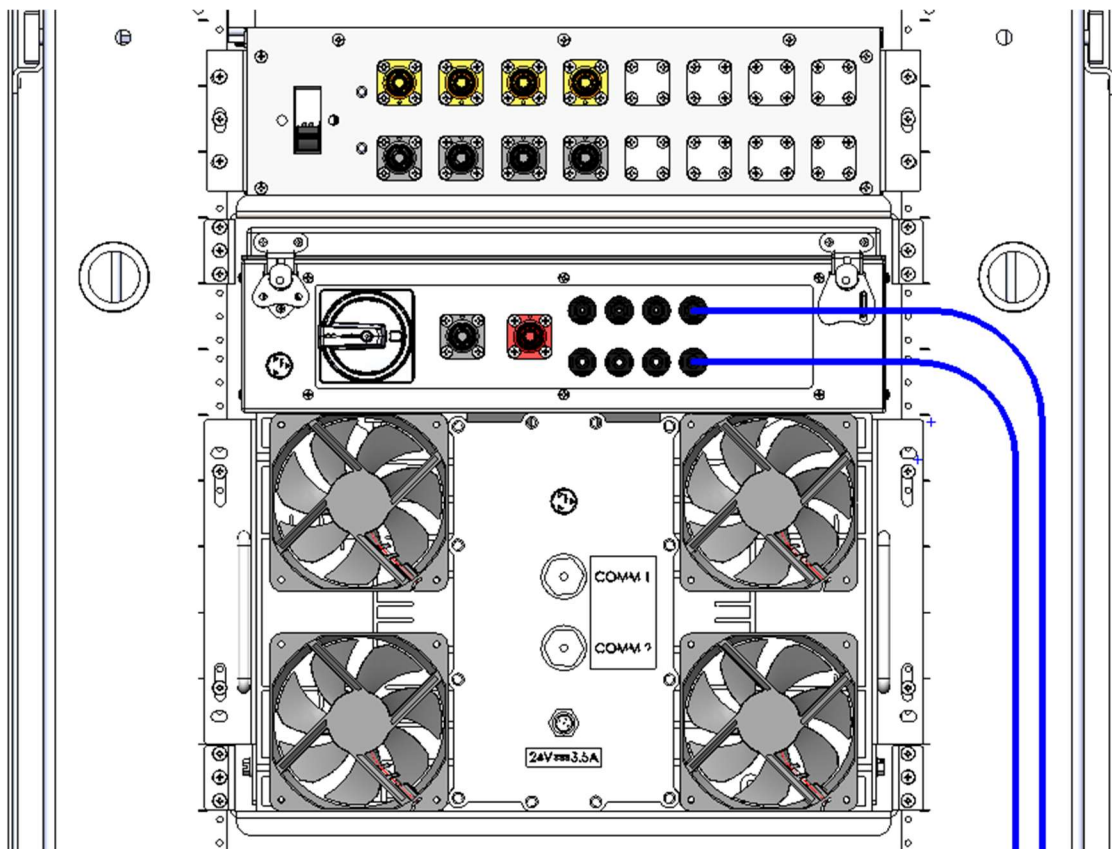

FIGURE 20: STRINGED PAIR WIRING ROUTED TO SECONDARY FEED #2
- For secondary side connections, route stringed cable pairs along the right-side stanchion (see Figure 20)